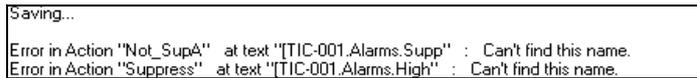

Figure 2.6.3 Typical ST ‘Save’ Error Message
1. Usage of the ‘.Suppress’ sub field attribute in ST and a SW version of LINtools that does not support alarm suppression results in ‘Save’ errors as shown in figure 2.6.3 below. For compatibility details refer to section 1.3.2.